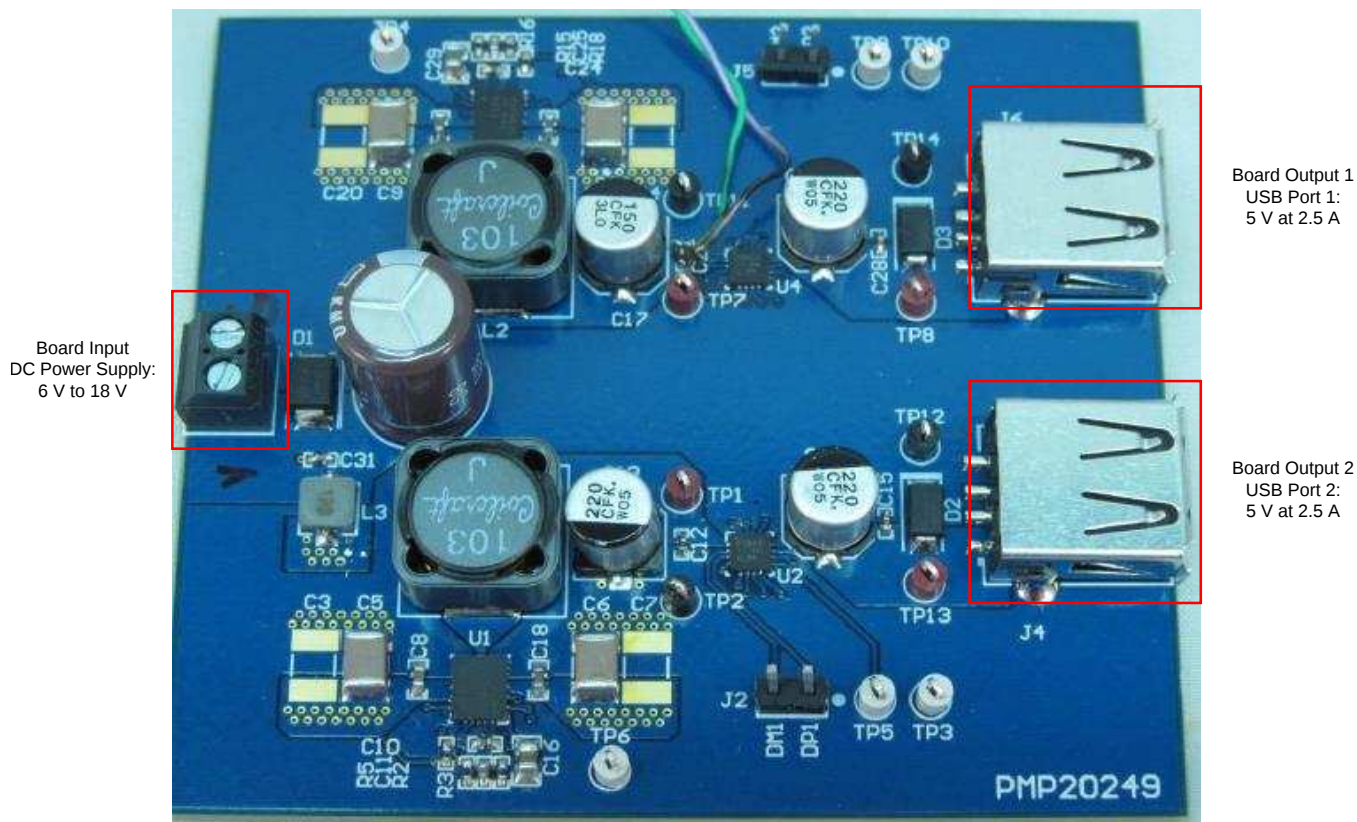

图 2. PMP20249 Board Setup
1. Connect a DC power supply to the board input as identified in 图 2.